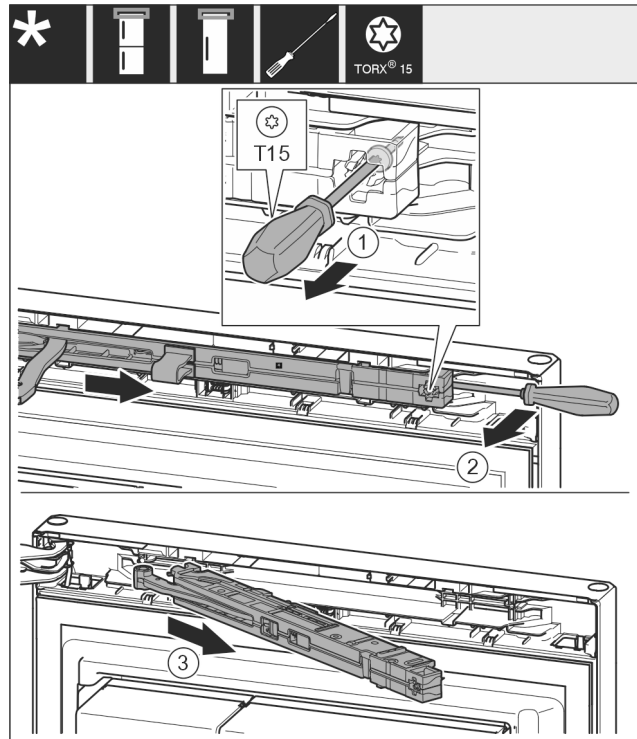

Fig. 13
- Loosen the screw Fig. 13 (1) on the closing damper unit with a 14 mm (9/16 in) screwdriver.
- Use the screwdriver to lift out the closing damper unit Fig. 13 (2) on the handle side.
- Pull out the closing damper unit Fig. 13 (3).